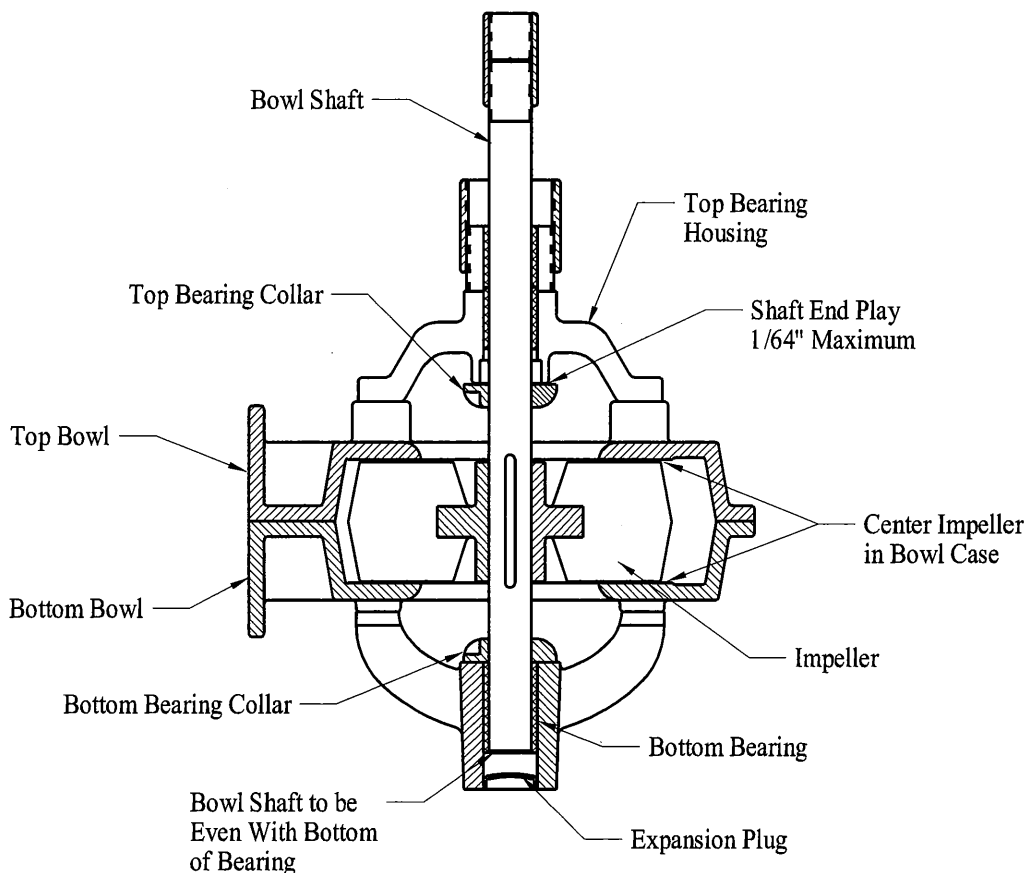

FIGURE 1.
3. Check impeller clearance at top and bottom bowl cases. The impeller should be located in the center of the bowl as shown in Figure 1, such that the clearance from the impeller to the top bowl is the same as the clearance of the impeller to the bottom bowl.
4. If adjustment is required for centering the impeller, follow these steps (See Figure 1).
4. Check impeller clearance in the bowl cases. Refer to M-S and Chopper bowl assembly check lists (Figures 1 & 2) for clearance instructions. If adjustments are required, loosen the set screws in the set collar (adjusting nut on chopper pumps) at the top drive bearing housing, then follow the same steps as listed for the M-S and Chopper bowl assemblies.